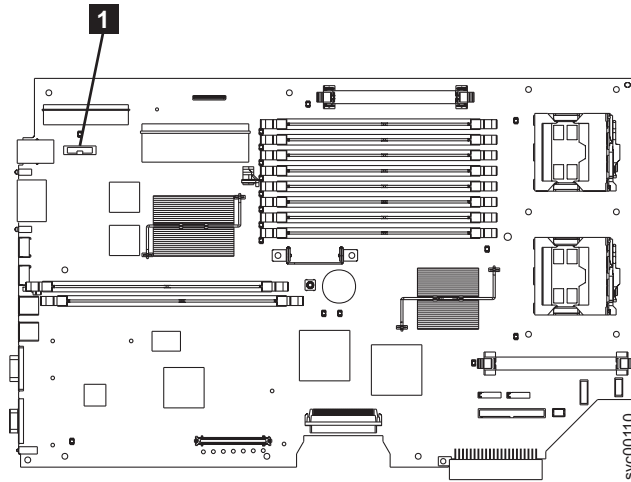

Figure 178. Location of the CMOS battery on the SAN Volume Controller 2145-8F2
1. Insert the new battery in the battery socket. Figure 178 on page 508 shows the location (**1**) of the battery socket.